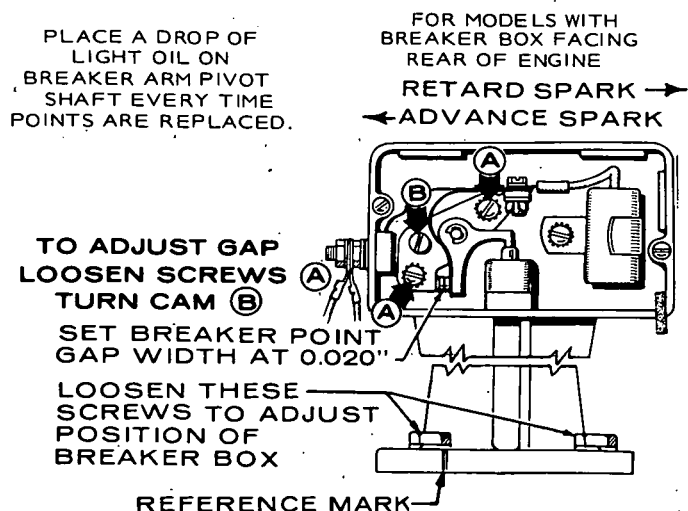

FIGURE 37. BREAKER POINTS
3. Turn flywheel in a clockwise direction approximately 1/4 turn after top center (TC).
4. To adjust gap, refer to Figure 37. Loosen screws (A) and turn cam (B) until point gap measures .020 inch with a flat thickness gauge. Retighten screws (A) and recheck gap.